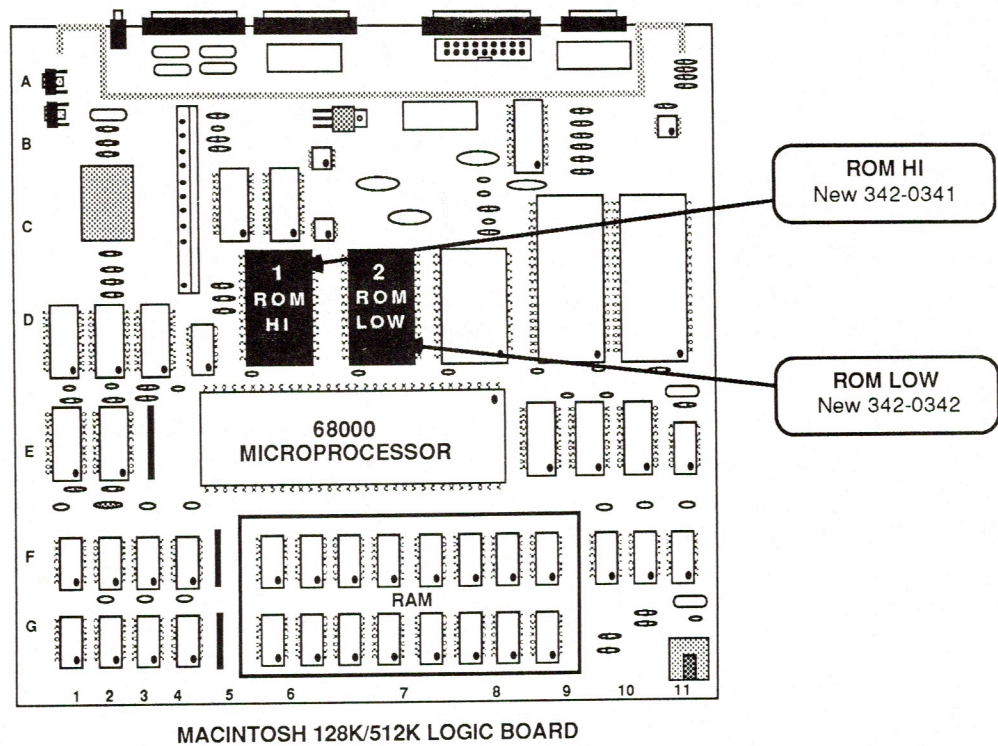

FIGURE 2
4. Remove the 128K/512K Macintosh logic board. Using an IC extractor, remove the two Revision D ROMs. ROM HI is at location D5, and ROM LOW is at location D8. (Refer to Figure 2, Macintosh 128K/512K Logic Board.)